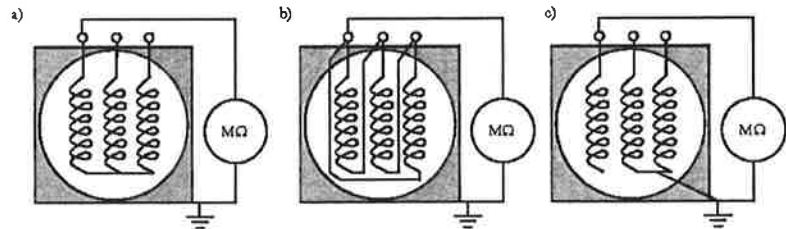

Figure 7-7 Connections of the stator windings for insulation resistance measurements
- Check that the secondary connections of the current transformers (CT's), including spare cores are not open. See *Figure 7-7 Connections of the stator windings for insulation resistance measurements*
The insulation resistance measuring should be carried out in the terminal box. The test is usually performed to the whole winding as a group, in which case the meter is connected between the frame of the machine and the winding; See *Figure 7-7 Connections of the stator windings for insulation resistance measurements*. The frame is earthed and the three phases of the stator winding remain connected at the neutral point, see *Figure 7-7 Connections of the stator windings for insulation resistance measurements*.
If the measured insulation resistance of the whole winding is lower than specified, and the phase windings can easily be disconnected from each other, each phase can also be measured separately. This is not possible for all machines. In this measurement, the tester is connected between the frame of the machine and one of the windings. The frame and the two phases not measured are earthed; see *Figure 7-7 Connections of the stator windings for insulation resistance measurements*.